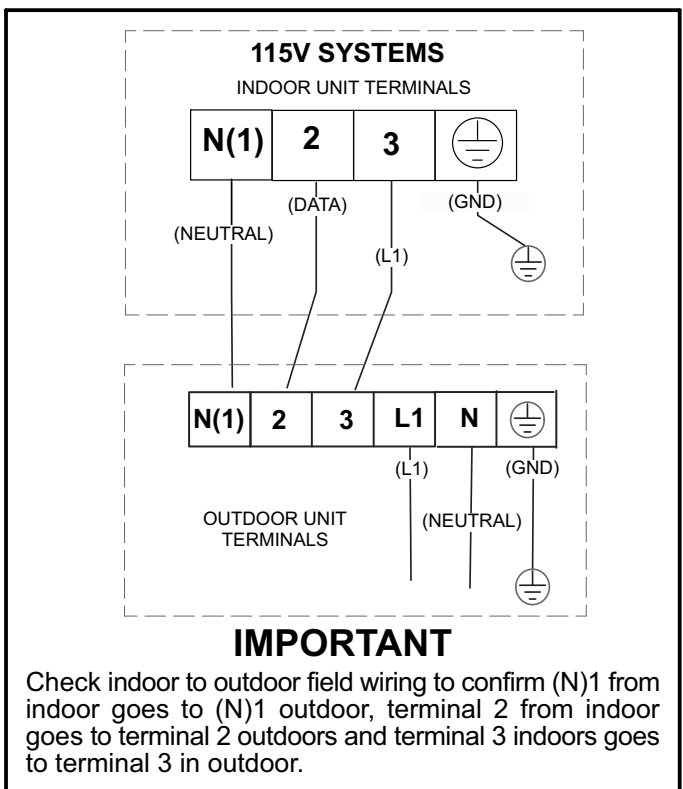

Figure 29. Unit Terminal Designations
7. Terminal designations for the indoor unit terminal block are illustrated in figure 29.